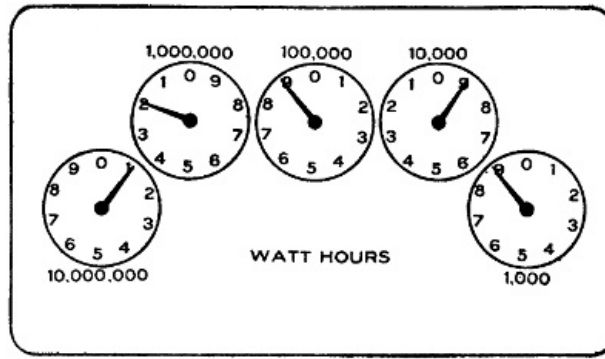

FIGURE 165.
*Meter Reading.*—Meter readings are indicated by pointers, arranged to move over dials as shown in Figure 165. The various pointers are connected together by gearing in such a manner, that alternate pointers move in opposite directions, as indicated by the figures on the dials. The gearing moving the pointers in Figure 165 is of such proportions that a total revolution of any pointer represents one-tenth of a revolution of the pointer to the left of it. Thus ten revolutions of one pointer causes one revolution of the one at the left.
In Figure 165 the right-hand pointer registers nine-tenths of 1000, or 900 watt hours; the pointer next to it registers eight, since it cannot be considered as fully up to any number unless the pointer at the right of it has just arrived at or passed 0. By the same token the middle pointer also registers 8 and as the middle pointer has not reached 0 the one at the left of it must be read as one, the last dial also indicates one and the total reading is 1,188,900. On some types of meters a multiplier is used. This is generally given on the meter dial and the readings given by the pointers must be multiplied by this number to obtain the correct reading of the meter.